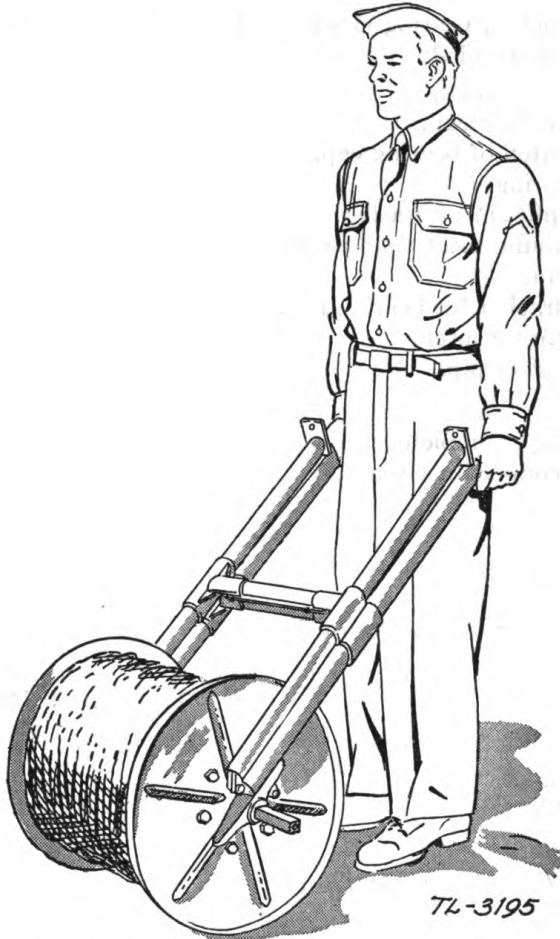

FIGURE 15.—Wheelbarrow method of handling reel unit RL-15.
c. *One-man carry.*—If the ground is smooth, the loaded reel unit RL-31 may be pushed wheelbarrow fashion as shown in figure 15. Fold up the frame and assemble to the reel and the axle as explained